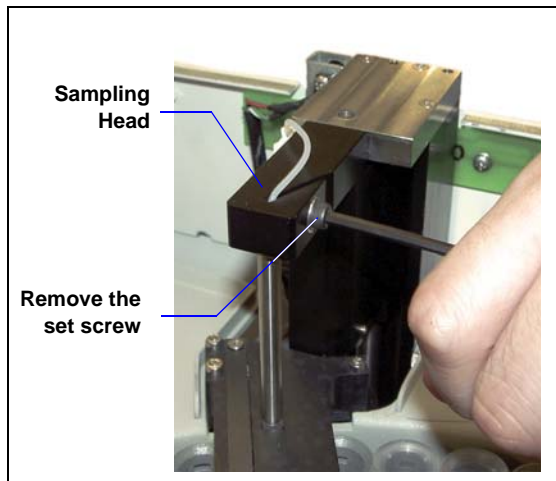

Figure 5-2. Removing the Set Screw
5. Use a 3-mm Allen wrench to remove the set screw on the sampling head (see Figure 5-2).